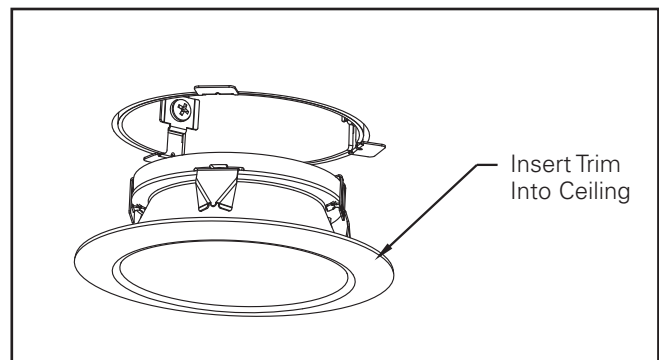

Figure 5
1. Insert trim into the opening of the LED module until it is flush against the ceiling (see figure 5).